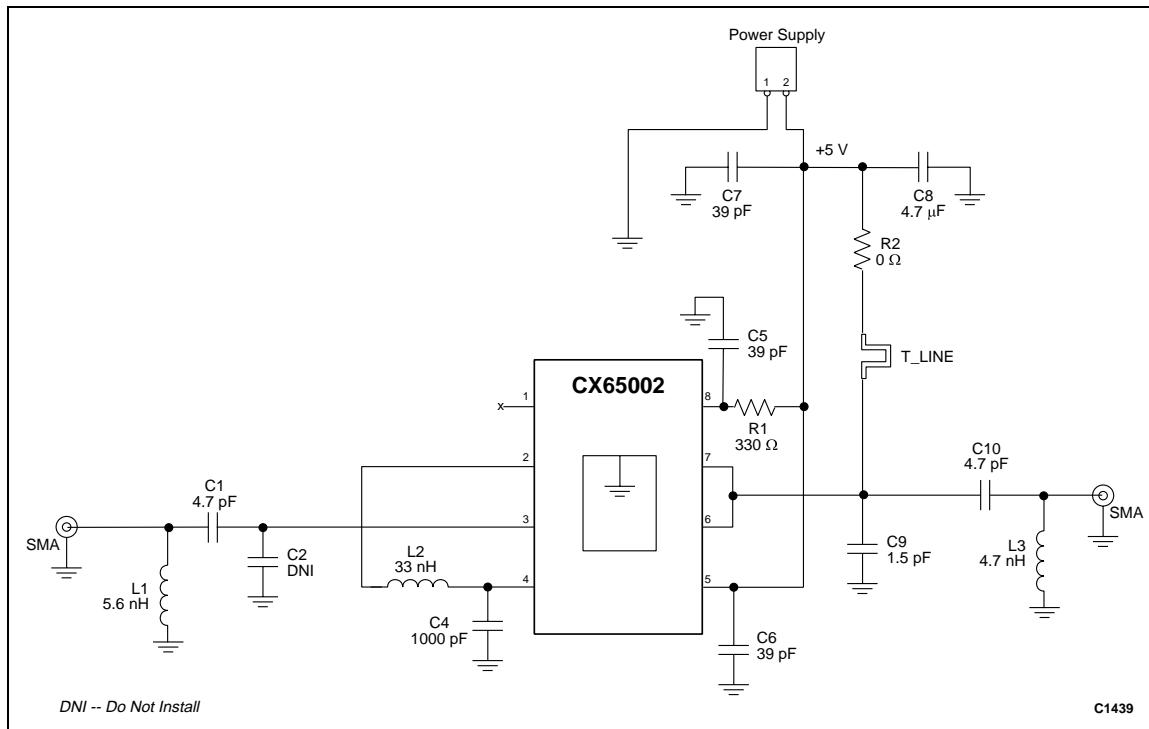

Figure 14. Application Schematic Optimized for ACPR @ 881.5 MHz
**Note 3:** Device matched for optimum ACP according to circuit shown in Figure 14.